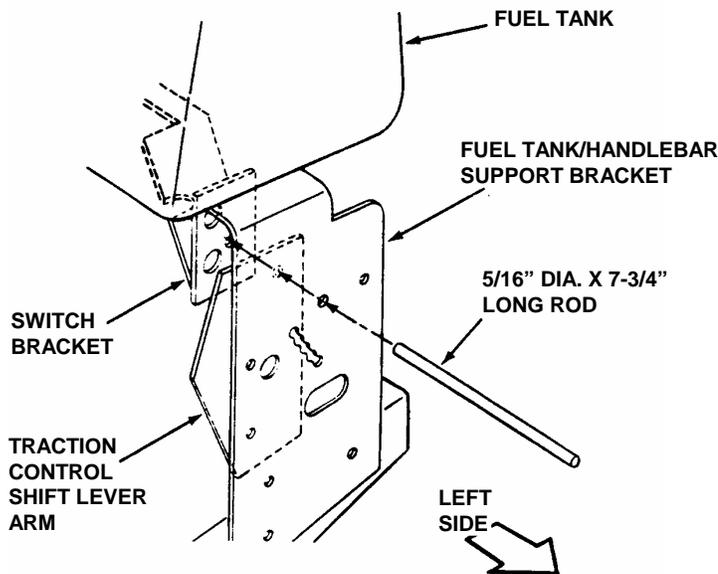

FIGURE 3.9
**STEP 3:** Insert rod (5/16" diameter x 7 3/4" long) through alignment holes in the left and right traction control shift lever arms and the switch bracket. The rod should pass through both the left and right traction control shift lever arms. This step is important as it places the shift lever arms in Neutral and aligns them with the Neutral interlock switches located in the switch bracket. See Figure 3.9.